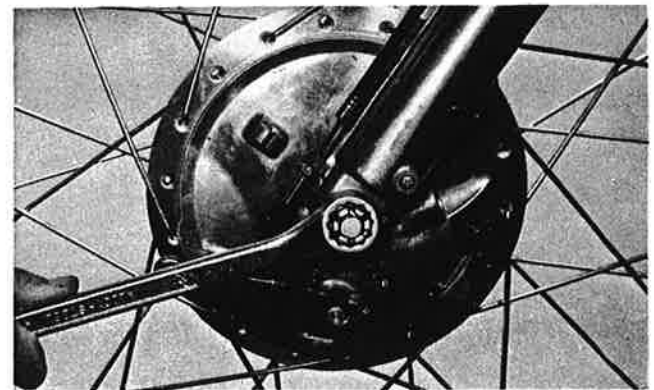

Fig. 5-1-5
5. Remove the front axle nut. (Fig. 5-1-5)